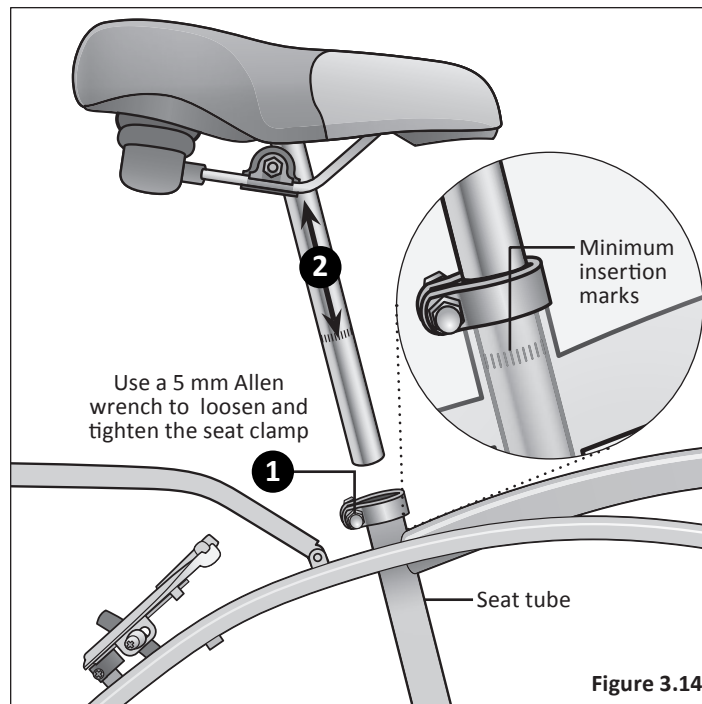

Figure 3.14
- ❶ Using a 5 mm Allen wrench, loosen the seat clamp bolt and insert the seat post into the seat tube. **Figure 3.14**
- ❷ Adjust the seat height up or down until the rider feels they have control of the bicycle and is comfortable.